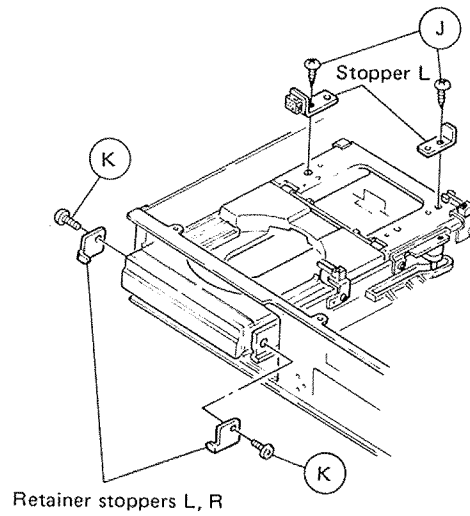

Fig. 5
- (1) Remove the TOP COVER.
- (2) Remove 2 screws ② and take off the 2 STOPPERS L. (Fig. 5)
- (3) Remove 2 screws ③ and detach the 2 RETAINER STOPPERS L and R. (Fig. 5)